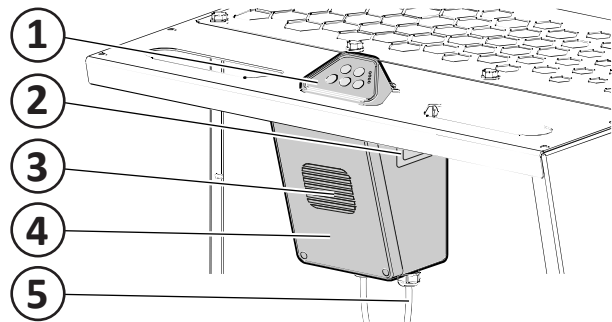

Fig. 18
Se Fig. 18.
On the control side (**Fig. 18**) are the control panel (1), the counter for operating time (2), the audible alarm (3) and the control and junction box (4). The control side also has handles for moving the unit and a 230-volt plug (5) with a 5-metre cable.